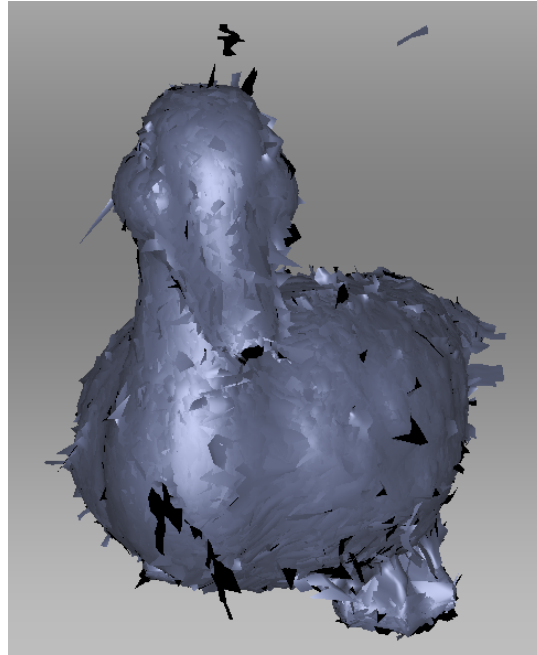

Figure 131: Alignment result.
4. Click *Align...* to run the alignment with your specified restrictions (Figure 131 shows example results). If you are dissatisfied with the alignment results, click ↶ and specify additional point sets, or reposition the current sets. To redo an operation that you have undone, click ↷.